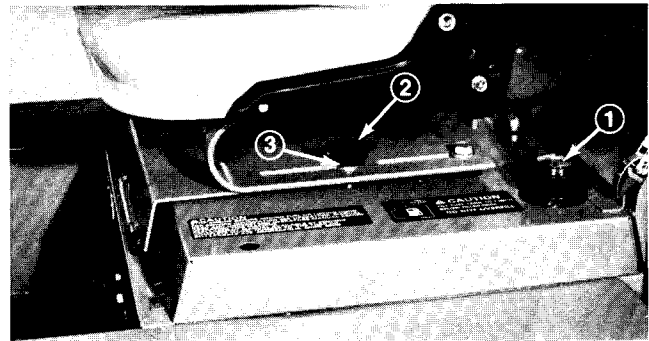

Figure 2
1. Tip the seat forward and prop it so it cannot fall accidentally. Use a clean rag to clean the area around the fuel tank cap (Fig. 2).